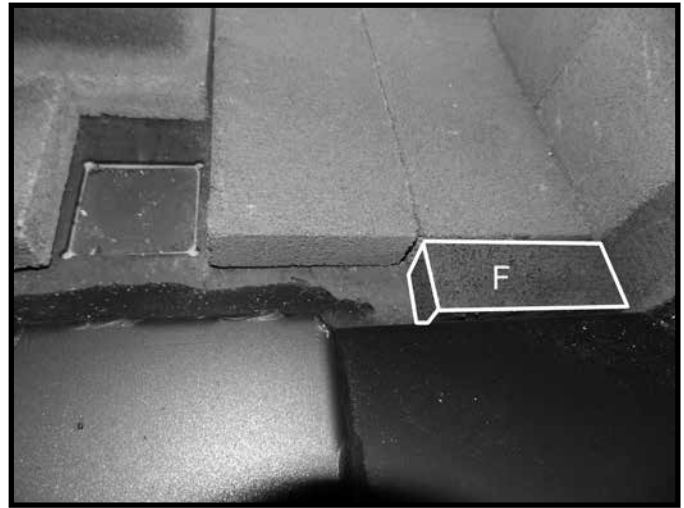
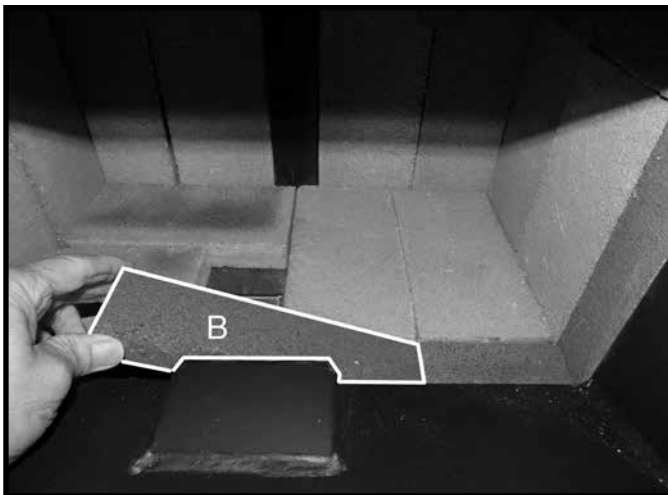

Figure 18: Short, narrow brick installed in front row.
Figure 19: Long narrow center brick in front row.
- Place a short narrow "F" brick against the front right side of the floor (Figure 18) followed by a longer "B" brick in the center of the front row (Figure 19). Finish with the last "F" brick placed against the left side front row (Figure 20). Note: There will be a leftover gap behind the ash dump.